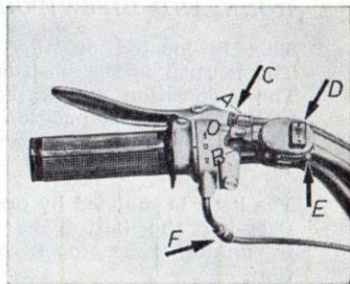

Fig. 4
It is also on a plate attached to the right-hand crankcase B, Fig. 4.
- 2.1 The gear selection lever is situated at the left hand side of the handlebar. When the engine is in neutral the lever is at position O. The first gear is position 1 and the 2nd is position 2. Fig. 4.
- 2.2 The clutch lever is positioned at the left side of the handlebars in the gears grip. Fig. 4.